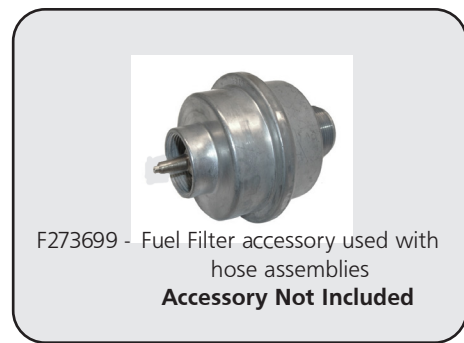

Figure 1
- **NOTE: THIS HEATER MAY BE OPERATED WITH (1) OR (2) DISPOSABLE 1 LB. PROPANE CYLINDERS OR WITH A REMOTE REFILLABLE CYLINDER(S) MAX. 20 LBS USING (1) OR (2) F273701, F273702 OR F272702 HOSE ASSEMBLIES WITH FUEL FILTERS (F273699) (Fig. 1) ON EACH HOSE ASSEMBLY. HOSE NO. F273704 BUDDY SERIES HOSE, FUEL FILTER NOT REQUIRED. IT MAY ALSO BE OPERATED WITH (1) F271802 HOSE ASSEMBLY CONNECTED TO A REGULATED (11" W.C.) PROPANE SOURCE OR (1) F271803 HOSE ASSEMBLY WITH 11" REGULATOR WITH ACME NUT.**